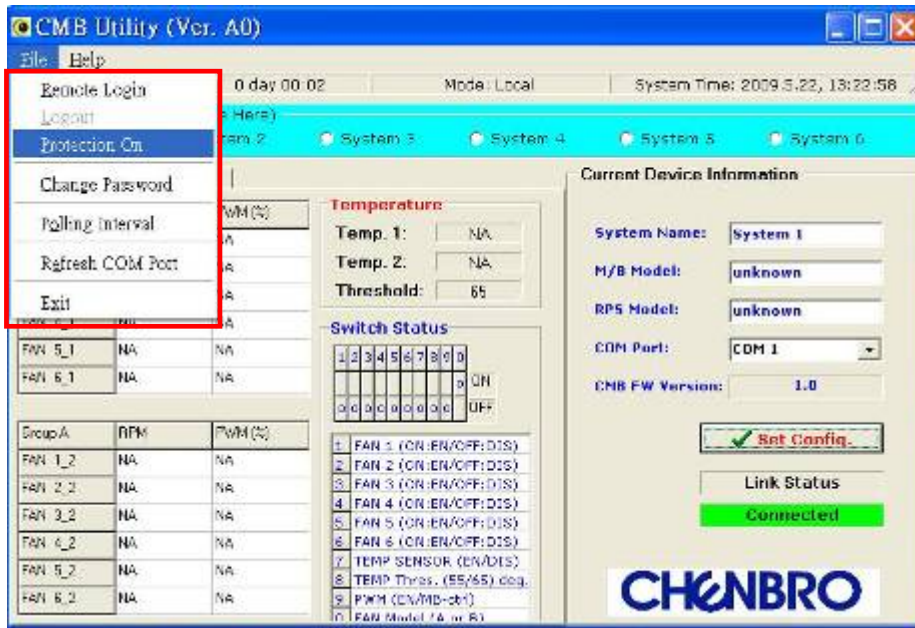

Figure-5
- **Protection Mode:** This setting is operated base on preventing any improper access from remote server. However, the protection enable / disable only can be set in local mode, not the remote mode. When the protection mode is enabled, only local mode access and control is allowed. (See Figure-5)